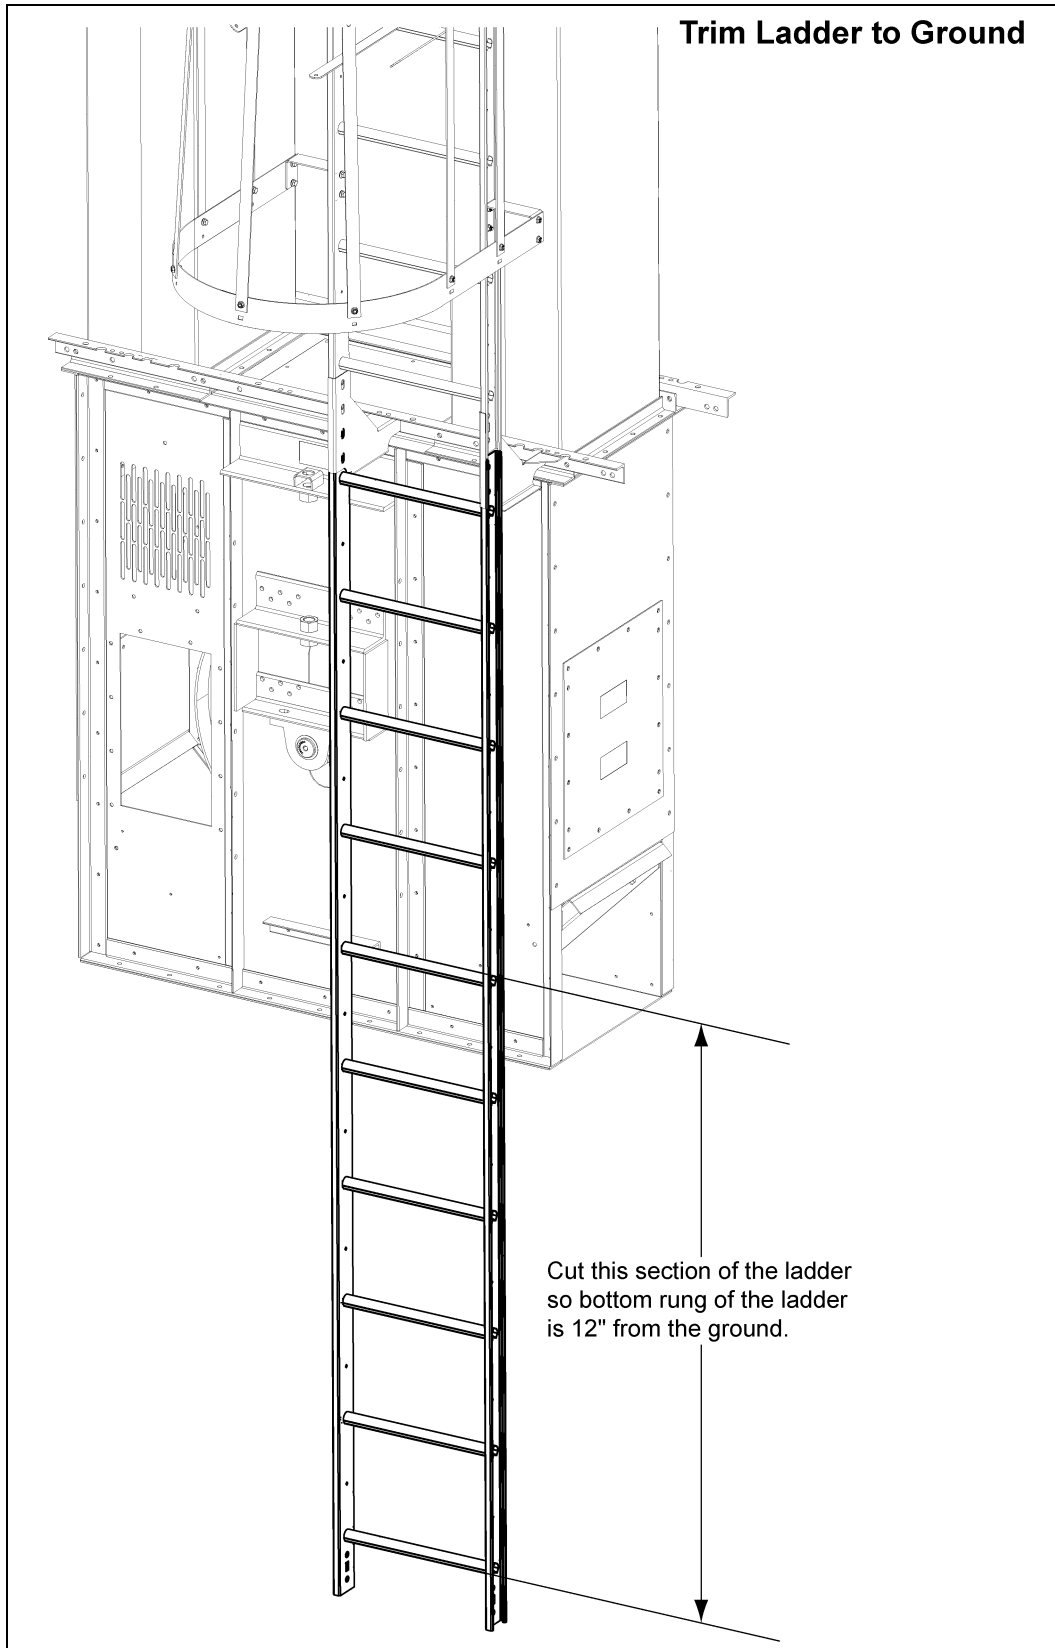

Figure 6E
1. Trim a 10' ladder section to sit so that the first ladder rung is 12" from the ground. (See Figure 6E.)